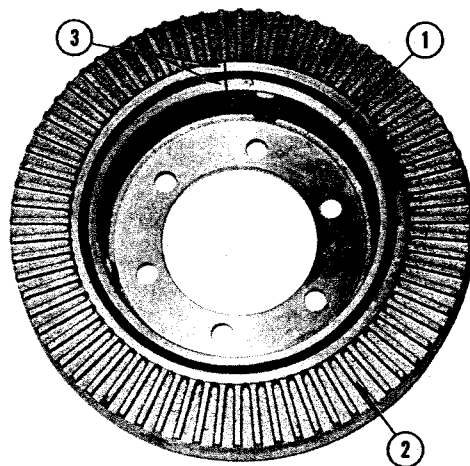

Fig. 2-36, (N10146). Vibration damper alignment marks
Damper hub (1, Fig. 2-36) and inertia member (2) are stamped with an index mark (3) to permit detection of movement between the two components.